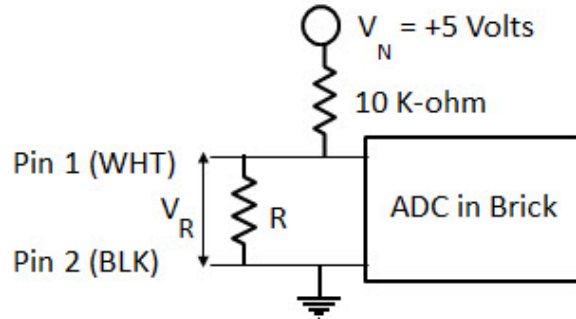

Figure 2A: Insert a random resistor R in between Pins 1 and 2.
Expanding upon **Figure 1B**, one can create insert a resistor between Pins 1 and 2. This is shown in **Figure 2A**.
Recall, **Figure 2A** is a voltage divider where we have the voltage across the resistor R as:
Step 1: Build the circuit given in **Figure 2A**.